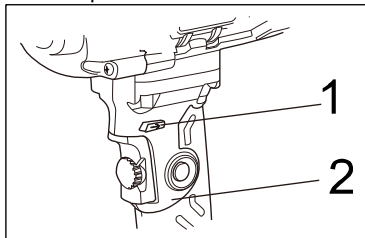

Fig. 3
The forward/reverse switch (1) is conveniently mounted immediately above the trigger switch on the drill handle (2) (Fig. 3). To make the drill